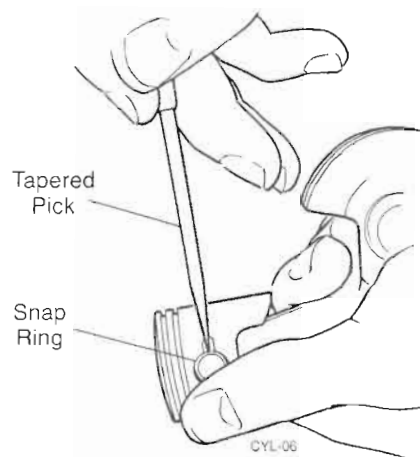

Figure 7.4 Removing Piston Snap Rings
STEP 1. Use a tapered pick to remove the two piston pin snap rings (Figure 7.4).